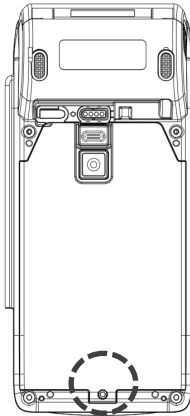

Figure 8
STEP 1: Remove the screw (head size: M2) of battery cover from AT-150 as Figure 8.